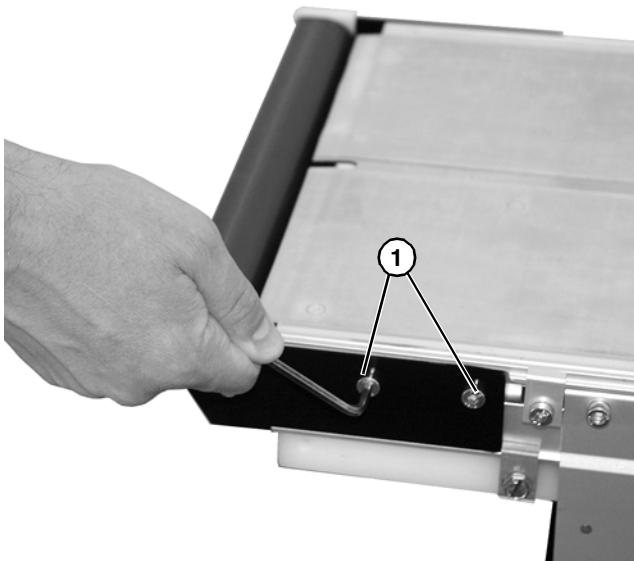

Figure 49
1. On one side of conveyor, remove two (2) fastening screws (**Figure 49, item 1**).